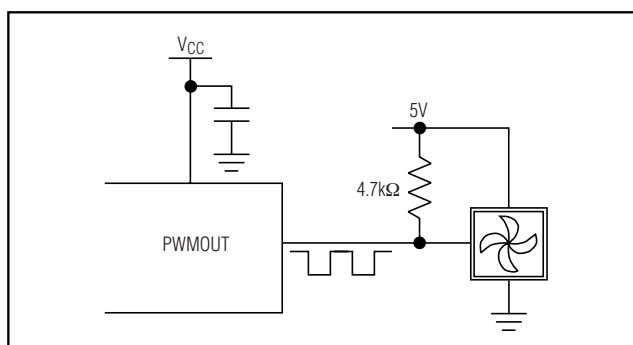

Figure 6. Controlling a PWM Input Fan with the MAX6678's PWM Output (Typically, the 35kHz PWM Frequency Is Used)
- 3) PWMOUT\_ directly drives the logic-level PWM speed-control input on a fan that has this type of input. This approach requires fewer external components and combines the efficiency of 1) with the low noise of 2). An example of PWMOUT\_ driving a fan with a speed-control input is shown in Figure 6. Bit D4 in register 02h should be set to 1 when this configuration is used.